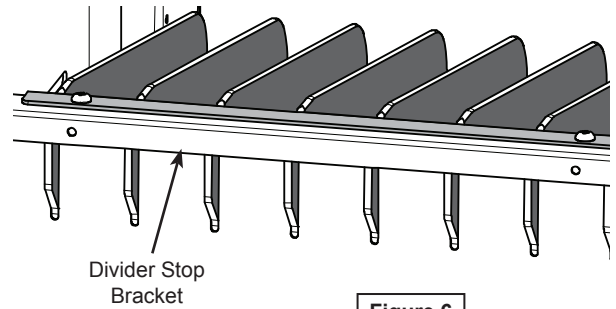

Figure 6
- To adjust or remove the dividers, use a Phillips screwdriver to remove the (4) 8-32 x 1/2" PHM screws securing the divider stop bracket. **Figure 6.**